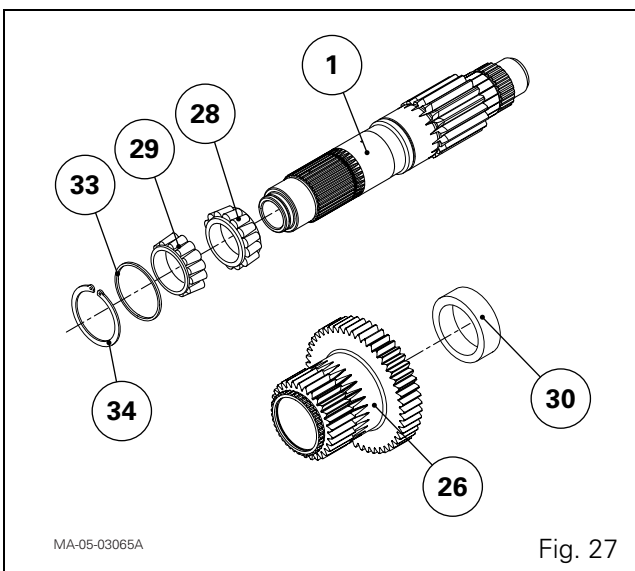

Fig. 27
67. Pair up the cones (28)(29) and cups (27)(30).
68. Fit the bearing cones (28) and (29) on the shaft (1). Next install the washer (33) and circlip (34) (Fig. 27).
69. Fit the cup (30) in the double pinion (26) (Fig. 27).